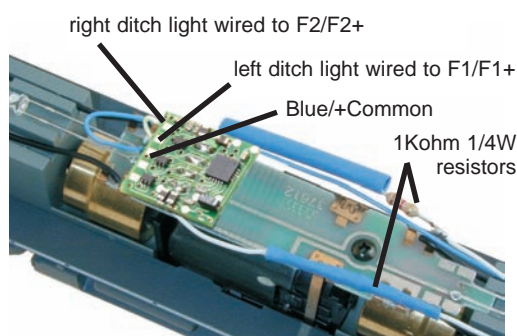

Figure 6. LED installation
3. Install two incandescent 1.5V/15mA lamps (or LEDs) as shown in **Figure 6&7**. A 1Kohm 1/4W resistor should be soldered inline with the lead to each light/LED. *The resistor value should be selected to set the desired level of brightness of the lights used.* Slide a short length of shrink wrap on each lead to cover the resistor. The leads from the lamps or LEDs are soldered to F1/Blue pads on the decoder (**Figure 4**) for the left ditch light and F2/Blue pads for the right ditch light. The Blue (+Common) wire is soldered to the middle pad on the decoder. The